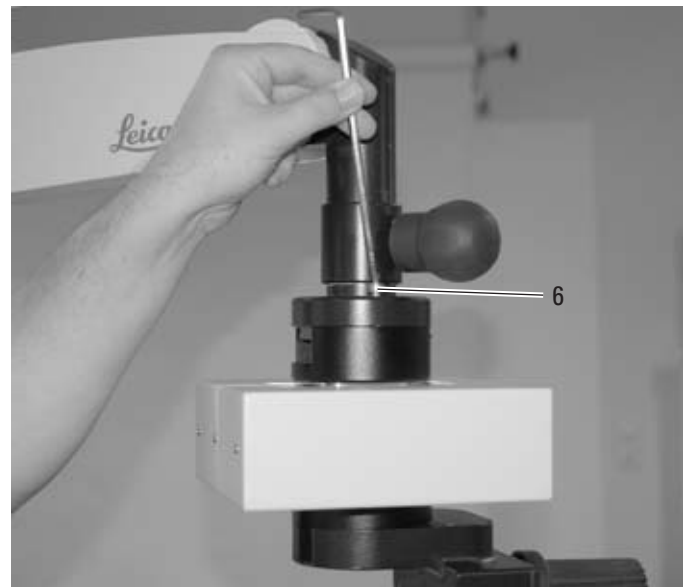

Fig. 4
⇒ Screw the XY-unit (optional) to the rotatable joint using 2 Allen screws (6) (Fig. 4).